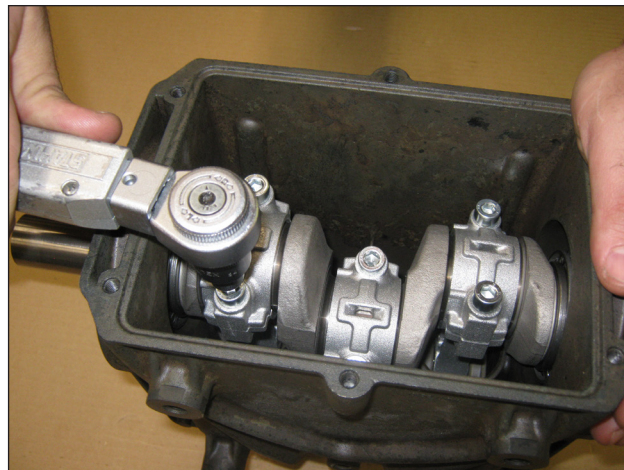

Fig. 10
- Fasten the caps to their respective con-rod shanks by means of M8x35 screws (Fig. 10) lubricating both the underhead and the threaded shank, proceeding in two different stages: